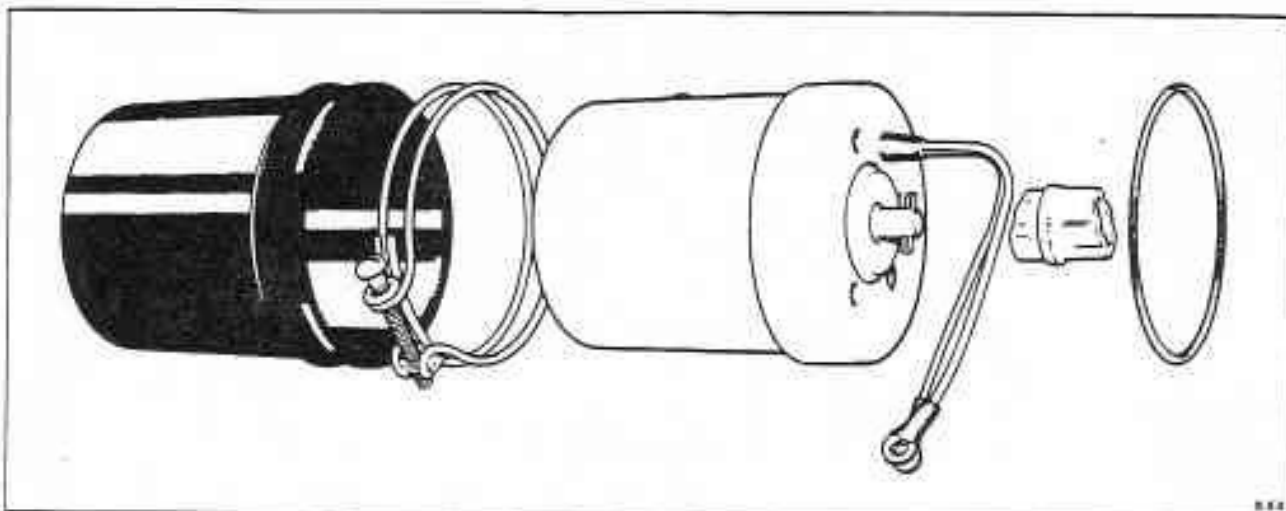

Fig. T5-7 Gearchange actuator motor
1. Tap out the driving pin from the driving shaft (see fig. T5-7).
Assemble the actuator motor (see fig. T5-7) by reversing the procedure given for dismantling. Test the motor after assembly, if the current consumption exceeds 7.5 A, the armature has an electrical fault and should be renewed.